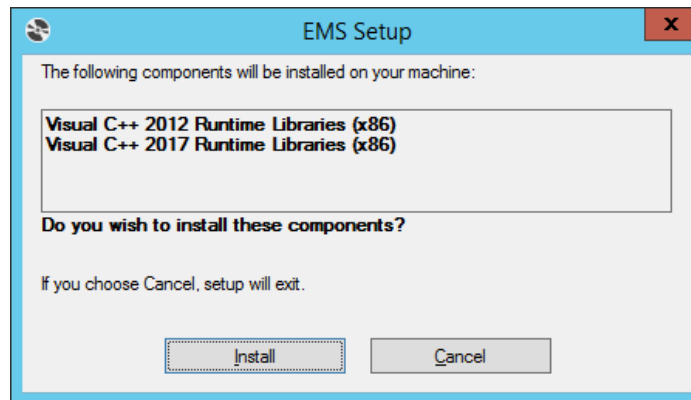

Figure 37
- After a short delay, the **EMS Setup** window may be displayed. See Figure 37 below: